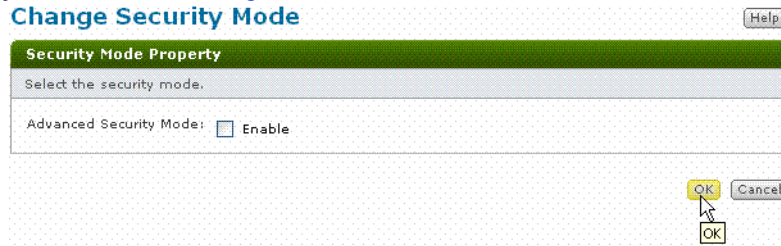

Figure 5-6: Change Security Mode dialog box
- Click **Change Security Mode**. The Change Security Mode screen displays as shown in Figure 5-6.